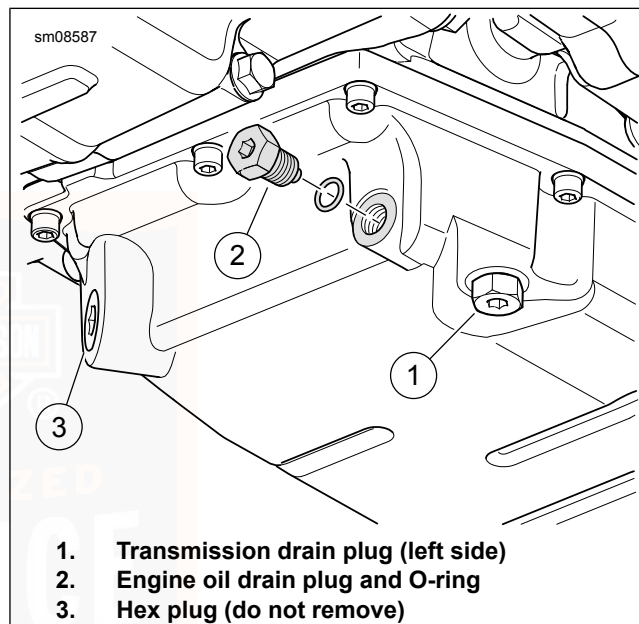

Figure 52. Oil Pan
3. See Figure 52. Remove the oil drain plug (2) and O-ring. Allow oil to drain completely.